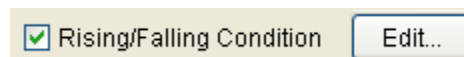

Figure 11.89 Rising / Falling Condition Modified from Default
5. Click **OK** to close the **Rising/Falling Conditions** dialog box. A check mark will appear in the Rising/Falling Conditions checkbox (as shown in Figure 11.89).